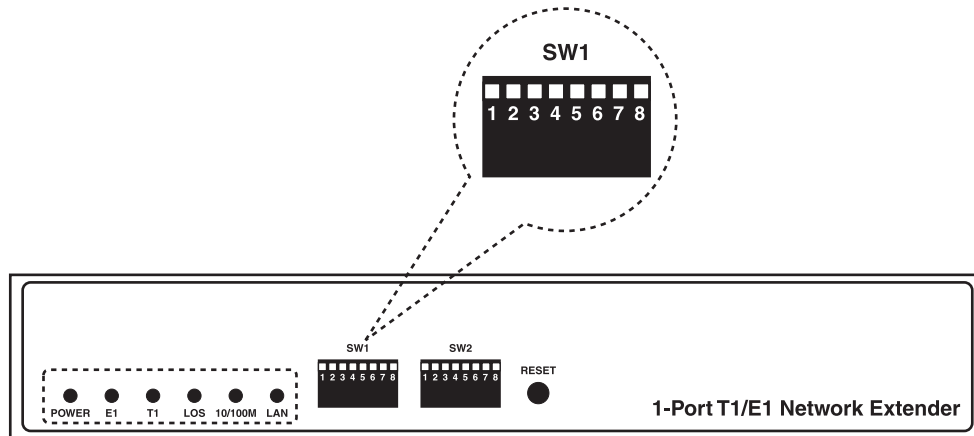

Figure 3-1. SW1-1–SW1-7 DIP switches.
1. Select the Fractional E1/ T1 interface configurations via SW1-1–SW1-7 DIP switches. The default setup is T1. The DIP switches are on the front panel. Refer to Figure 3-1 and Table 3-1 to see the DIP switches' locations and definitions.